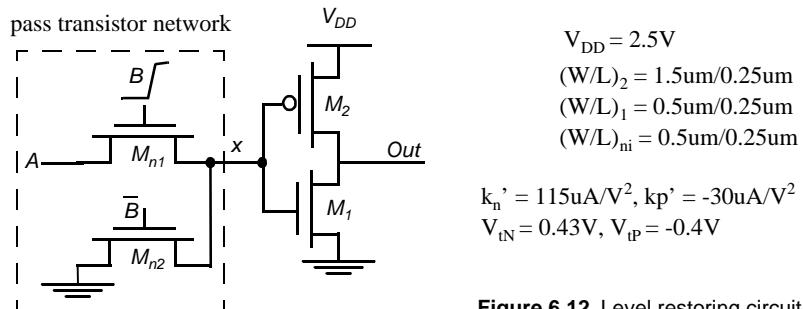

Figure 6.12 Level restoring circuit.
Consider the circuit of Figure 6.12. Assume the inverter switches ideally at $V_{DD}/2$, neglect body effect, channel length modulation and all parasitic capacitance throughout this problem.
- e. Replace the pass-transistor network in Figure 6.12 with a pass transistor network that computes the following function: $x = ABC$ at the node x. Assume you have the true and complementary versions of the three inputs A, B and C.